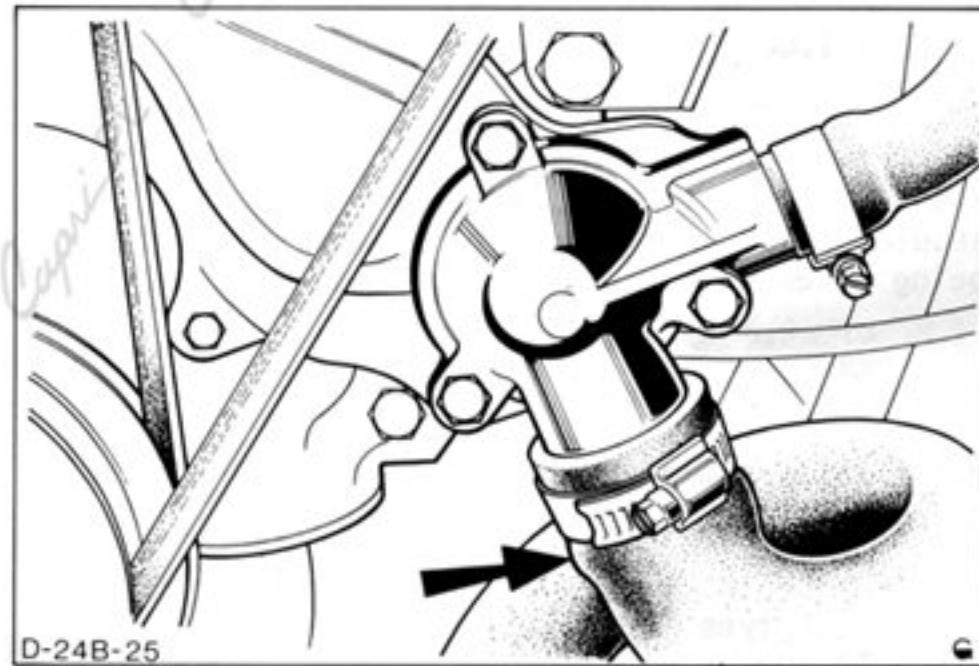

Fig.36. Radiator bottom hose connection to thermostat housing.
7. Loosen radiator bottom hose clamp at thermostat housing, Fig.36, and remove hose.